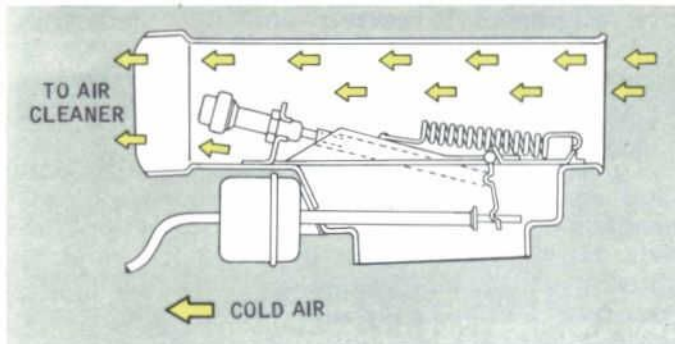

Fig. 20 — Duct and Valve in Heat-Off Position — Warm Engine
maximum temperature, the valve plate will be in the *heat-off position* (down) so that only engine compartment air is allowed to enter the air cleaner (Fig. 20).
6. Increase the water temperature to 135 degrees F., allow five minutes to stabilize the temperature, and observe the valve plate position. The valve plate should be in the *heat-off position* (Fig. 20).